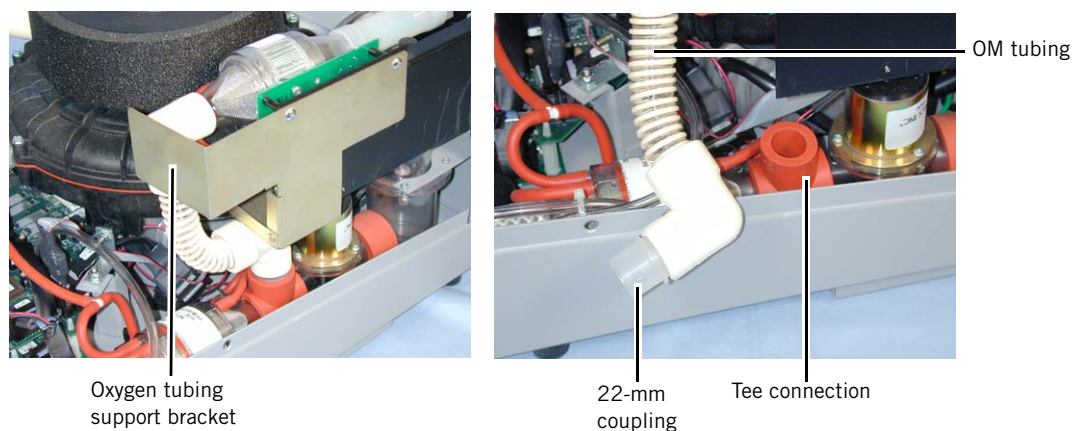

Figure 8-5: Removing OM Components
2. Remove the following oxygen module (OM) components (Figure 8-5):